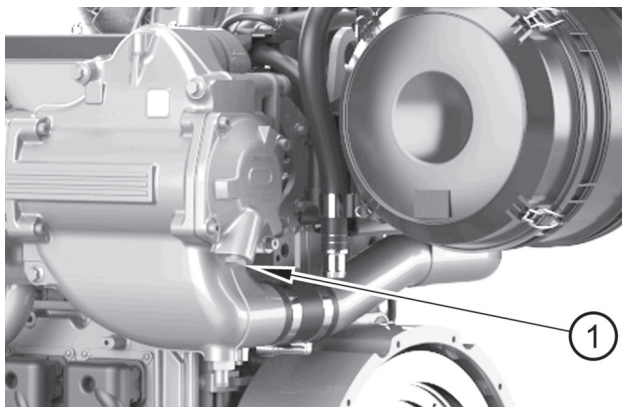

Figure 9
2. Remove the drain plug (figure 9 item 1), from the aftercooler. Ensure that the drain hole is not restricted.